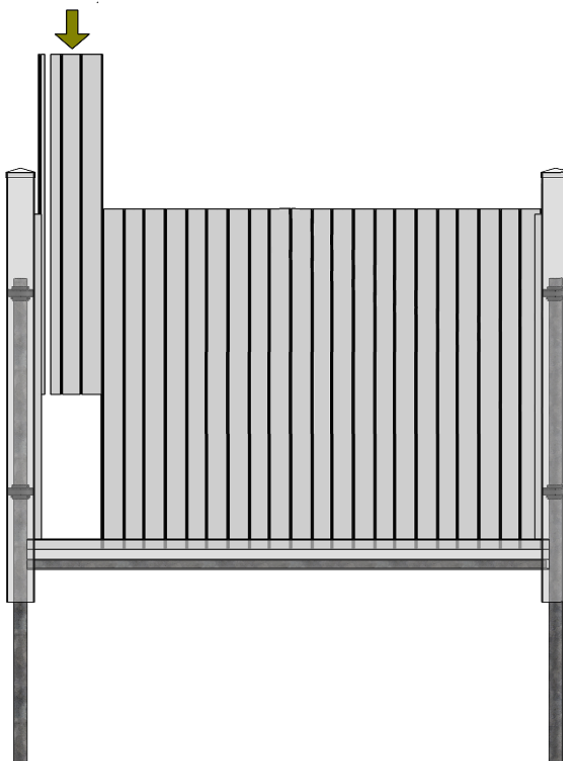

Figure 11
- Insert interlocking fence boards into bottomrails. (Figure 11)